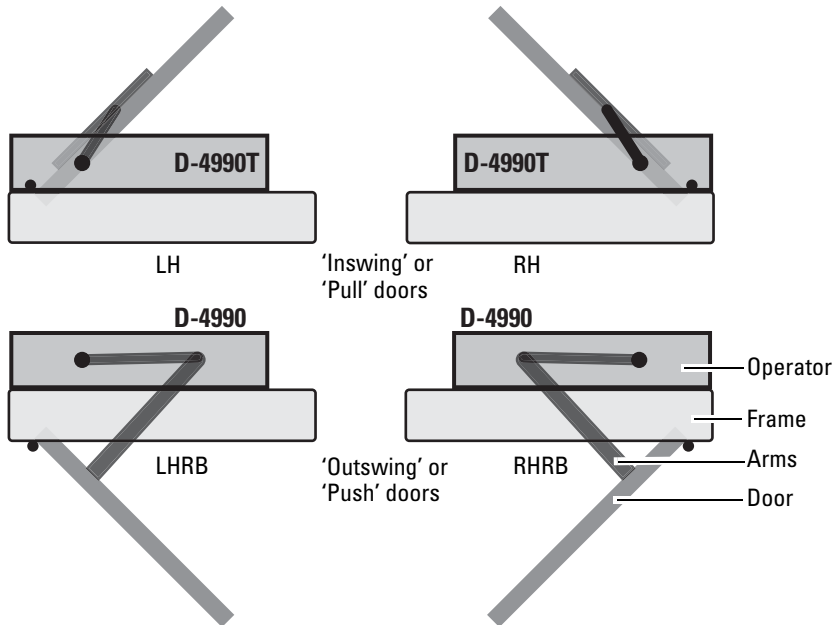

Figure 1.8 Diagram showing how the D-4990 and D-4990T mount to the four door swings
1. Determine the handing and side of the door. The D-4990 mounts to right-hand reverse bevel (RHRB) and left-hand reverse bevel (LHRB) doors. The D-4990T (track) mounts to right hand (RH) and left hand (LH) doors. See Figure 1.8 on page 1-11.